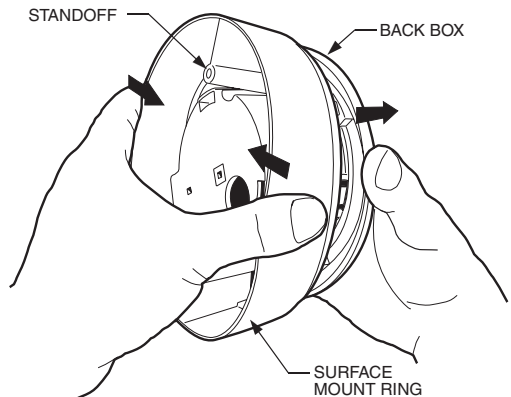

Figure 5. How to Remove Surface Mount Ring from Back Box
3. Remove the surface mount ring from the back box. Refer to Figure 5 and do the following:
2. Remove the surface mount ring from the back box. Refer to Figure 5 and do the following:
1. Remove the surface mount ring from the back box. Refer to Figure 5 and do the following: